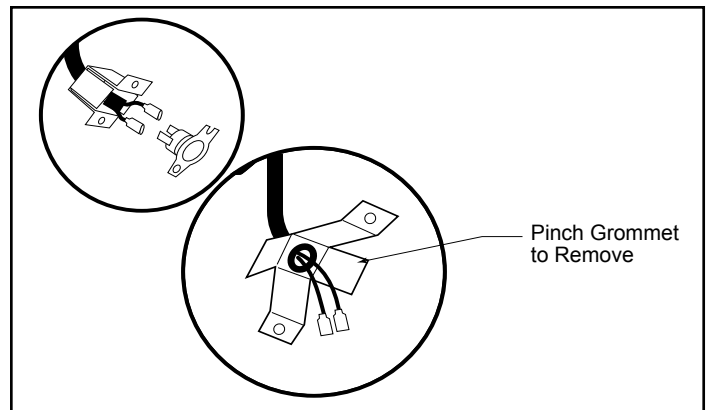

Figure 29 - Remove snapstat and grommet from the bracket.
- Disconnect the snapstat module (G) from the leads inside the snapstat bracket (H).
- Bend open the snapstat bracket (H). Use your fingers or needle nose pliers to remove the black plastic grommet from the bracket. Discard the bracket. (Figure 29)